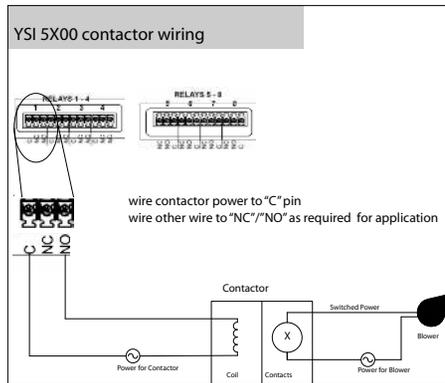

Figure 3.22
- ⚠ CAUTION: Do not overload relay(s). Check manufacturer specifications for inductive current/amp at power up. Use a contactor if necessary - figure 3.22. (Common lettering references are used for both 5400 and 5500 models).
The eight onboard relays are rated at 240VAC@5AMPS (110VAC@10AMPS) switching capacity. Contactors should be used for devices drawing current loads higher than relay specification. See figure 3.22 for contactor wiring.